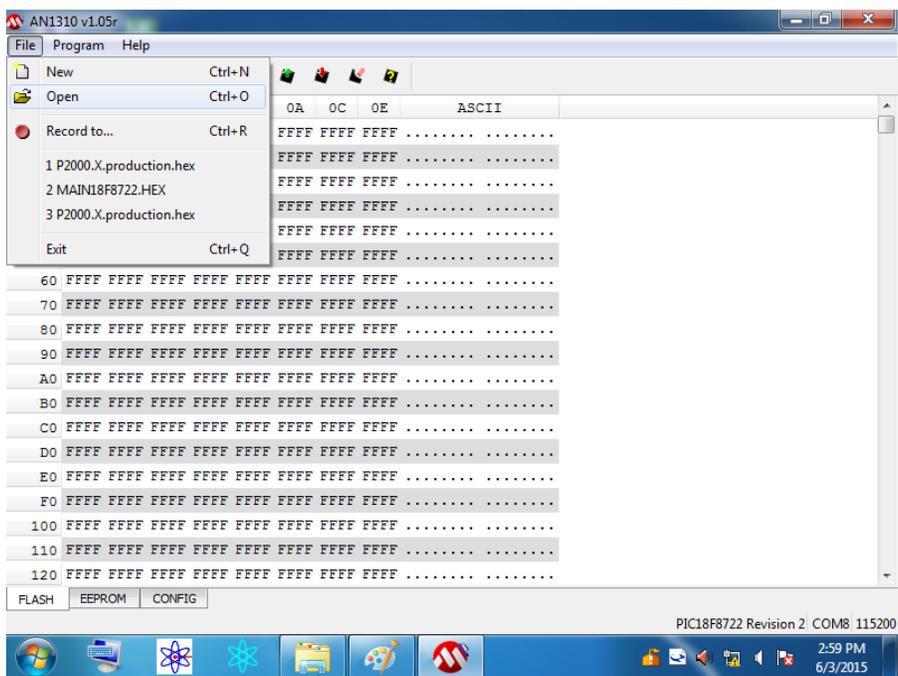

Figure 3.17
7. From the main menu select **File>Open** (Figure 3.17)